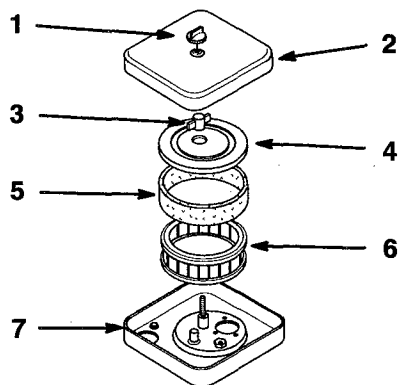

Figure 15
3. Clean around the air cleaner to prevent dirt from getting into the engine and causing damage. Remove the knob and air cleaner cover (Fig. 15).
4. Unscrew the nut and remove the cover, foam element and paper element (Fig. 15).
5. Carefully slide the foam element off the paper element (Fig. 15).
1. Carefully slide the foam element onto the paper air cleaner element (Fig. 15).
2. Place the air cleaner assembly into air cleaner base. Slide cover onto rod and secure with nut (Fig. 15).
3. Install the air cleaner cover and secure with wing nut (Fig. 15).